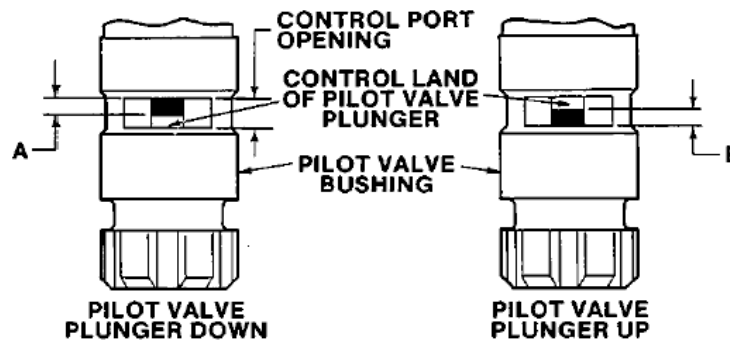

Figure 4-19. Centering the Pilot Valve Plunger
2. Push on the flyweight toes to lower the pilot-valve plunger as far as possible. Check distance A (Figure 4-19). Pivot flyweights out as far as possible and check distance B. Distance A must equal distance B when flyweights have been moved from the extreme inward to the extreme outward position.